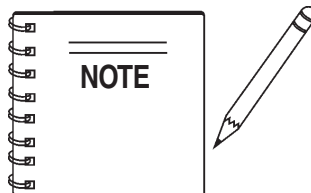

**Figure 74. Off/Manual Auto Switch (AUTO)**
4. Place the Auto-Off/Reset-Manual switch (Figure 74) to the **OFF/Reset** position.